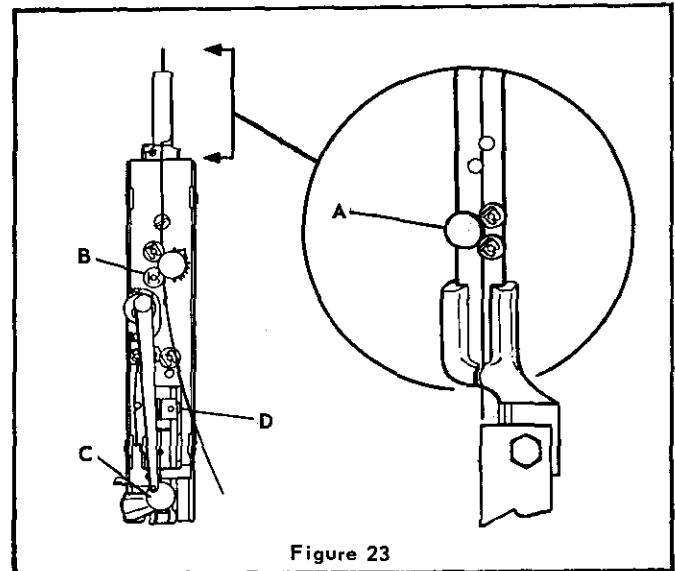

Figure 23
**O. Wire Straighteners (Figure 23)**
The lower wire straightener curves the wire to the right so that it enters the swivel (Index C). If the wire is not curved enough it hits the swivel and buckles. After the wire has been cut, if there is not enough curve in the wire, it will fall out of the swivel. Adjust the lower wire straightener so that the wire curves as shown in Figure 23. Improper straightening of the wire can also cause the stitch legs to buckle or turn out because they strike the clincher improperly. Excessive tension on the wire straighteners prevents the grip (Index D) from feeding the wire smoothly. This causes variation in leg length.